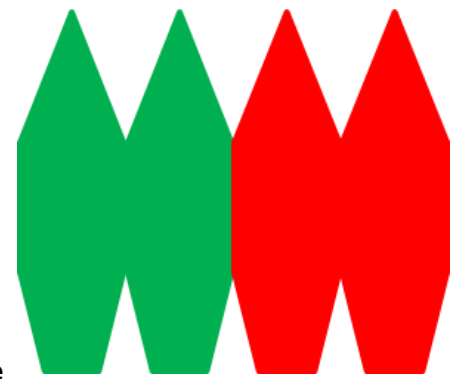

Figure 6
- Open up the paper. You should now have four shapes, two of which are already joined together. (Figure 6)